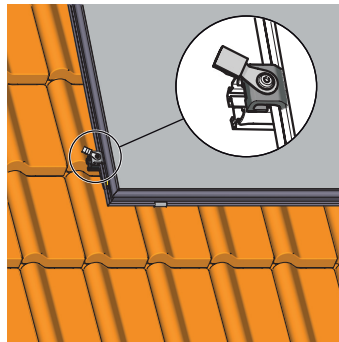

Fig. 3-19 Slide the individual clamping block with equipotential bonding terminal in and screw down tightly
5. Push the single clip equipotential bonding terminal at the return flow connection into the mounting profile and tighten using an Allen key (Fig 3-19).